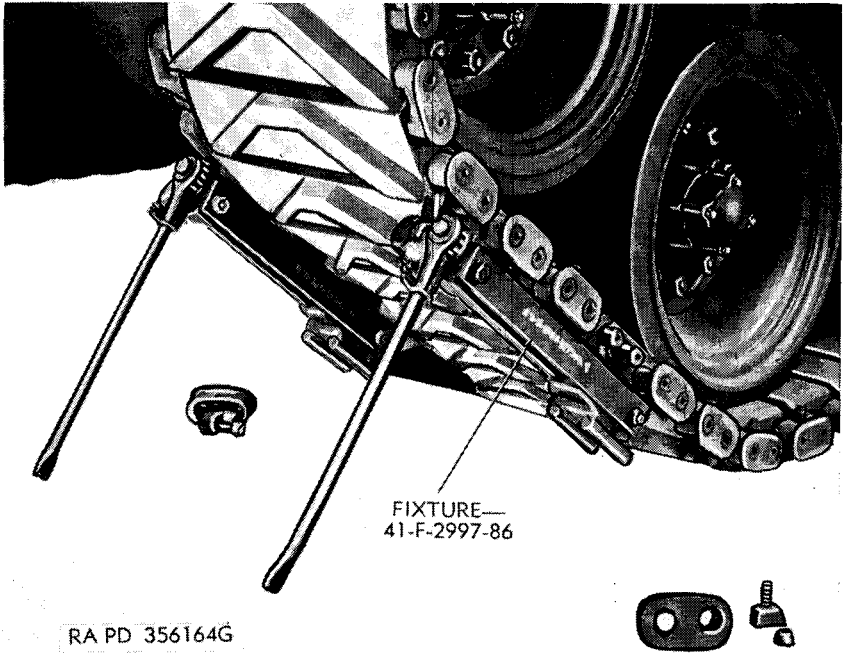

Figure 138. Connecting rubber track.
- (2) *Rubber track.* To replace rubber track (T85E1) (fig. 138), mount track connecting fixture, draw track ends together, drive outer connector on track pins until near track fixture, remove outer track connecting fixture and continue to drive connector until against block; install wedge and wedge nut. Replace inner connector in same method. Install wedge and wedge nut. Drive wedges in and tighten nuts securely.